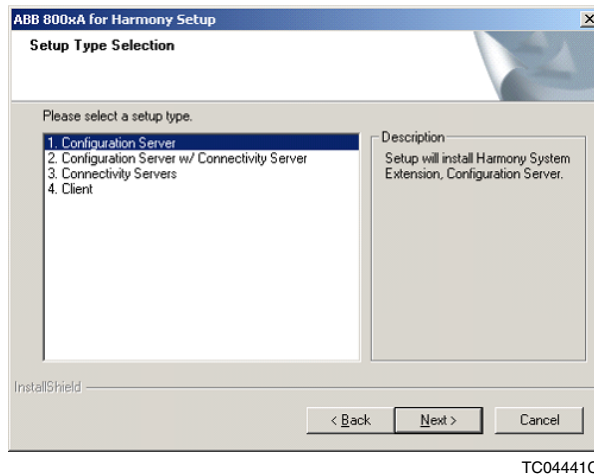

Figure 33. Setup Type Selection
2. Follow the Installation Wizard until reaching the Setup Type Selection dialog box (Figure 33). Select the setup type based on the node type where the software is currently being installed.